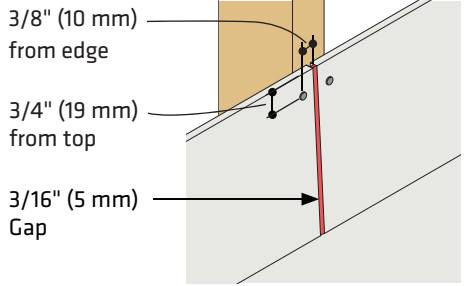

Figure 4b
1. **If sealant (caulking) option is selected**, seal gap at butt joints with a high-quality exterior sealant meeting ASTM C920, minimum Class 25. (Figure 4b and 6a)